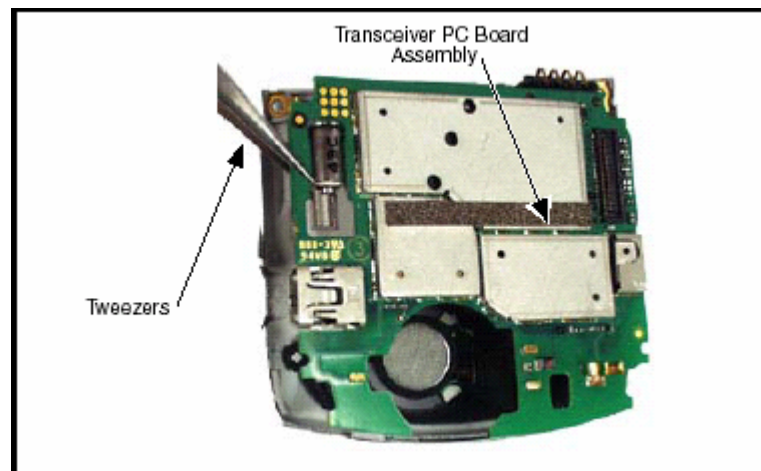

Fig9
2. Lift the transceiver board assembly out of the front housing with the metal tweezers. See Figure 9.